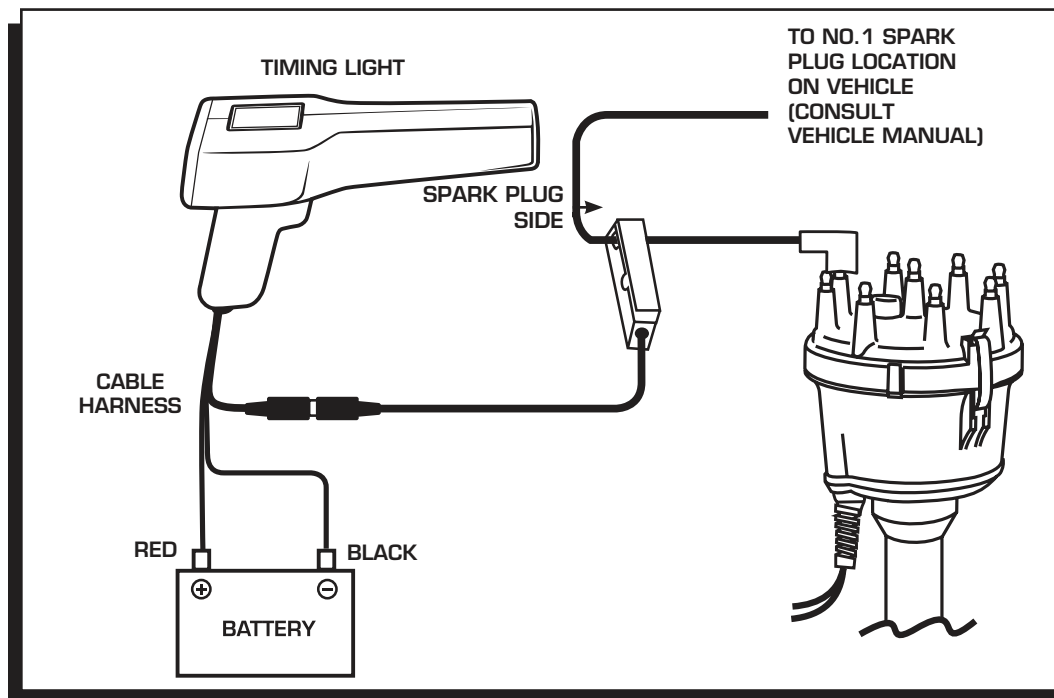
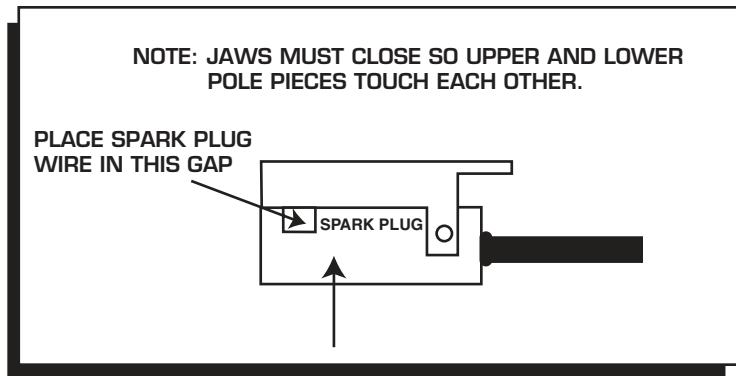

Figure 1 Wiring.
Figure 2 Inductive Pickup.
2. With the engine off, connect the Black clip to the negative (-) terminal on the battery. Connect the Red clip to the positive (+) terminal on the battery. The voltage should be between 10-16 volts (Figure 1).
3. Clamp the inductive pickup over the number 1 spark plug wire (See Figure 1). The position of the inductive pickup does not matter but the wire must fit in the gap between the jaws of the pickup (Figure 2). Do not pinch the wire between the end of the jaws. Consult your vehicle's service manual to locate the number 1 cylinder on your engine.